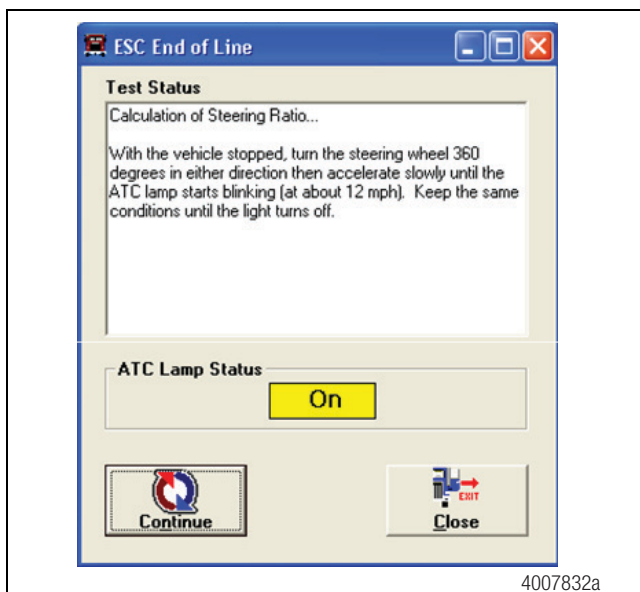

Figure 22
- A message will appear after the “straight driving” is complete. Carefully read and follow the instructions in the message box. Start driving in a circle with the steering wheel rotated 360 degrees. No keyboard input is required. Figure 22.